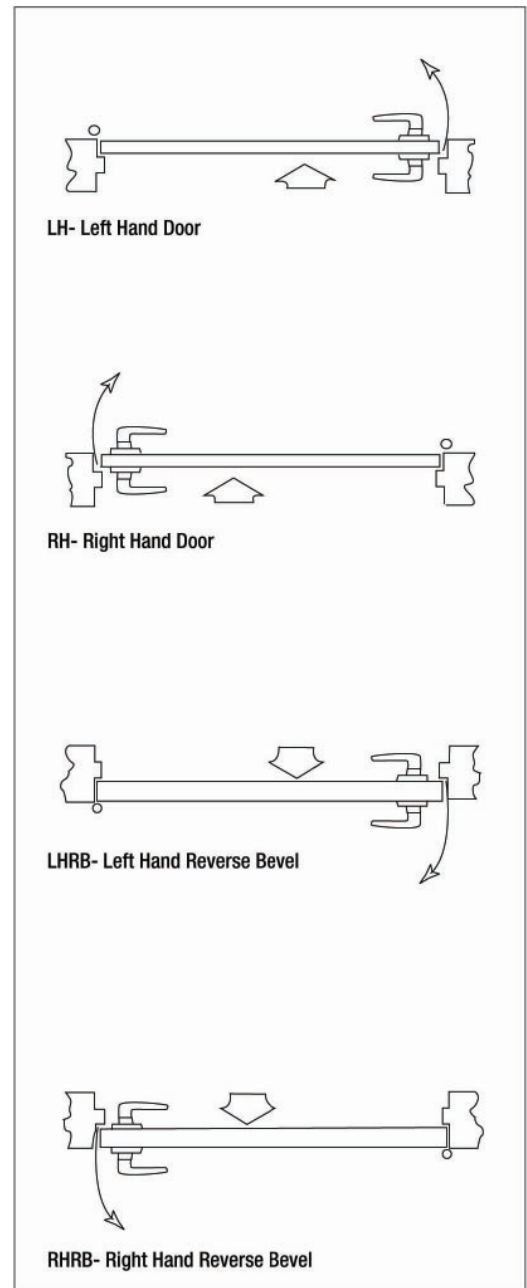

Figure 1
1. Verify Hand and Bevel of the Door. (See Figure 1)